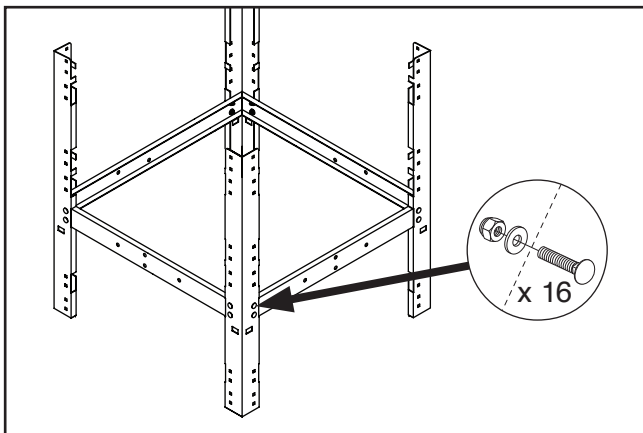

Figure 10. Initial assembly of upper stand legs connected to lower stand braces.
1. Connect upper stand legs with lower stand braces, using (16) $\frac{5}{16}$ "-18 x $\frac{3}{4}$ " carriage bolts, $\frac{5}{16}$ " flat washers, and $\frac{5}{16}$ "-18 hex nuts (see **Figure 10**).
Note: Be sure to build frame using bolt holes indicated in **Figures 10–11** and **26**. Machine will not fit correctly on frame if wrong holes are used and you will need to rebuild frame.